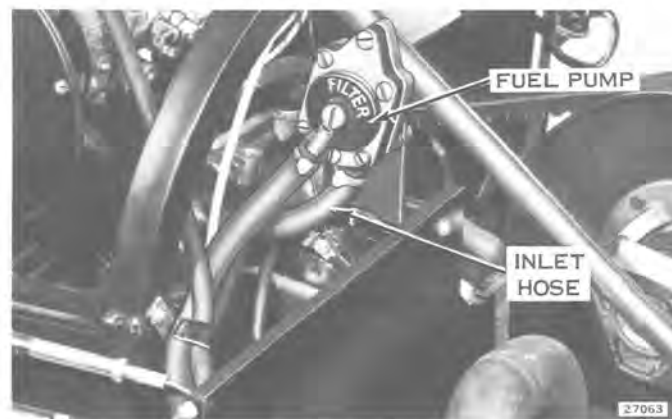

Figure 9-4
5. Disconnect inlet hose from fuel pump. See Figure 9-4. Disconnect primer line from intake manifold. Disconnect fuel return line from carburetor.